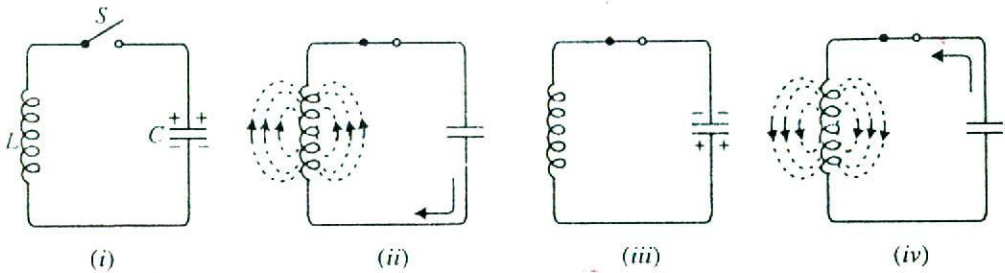

Fig. 16.2
A simple oscillatory circuit consists of a capacitor (C) and inductance coil (L) in parallel as shown in Fig. 16.2. This electrical system can produce electrical oscillations of frequency determined by the values of L and C . To understand how this comes about, suppose the capacitor is charged from a d.c. source with a polarity as shown in Fig. 16.2 (i).
(i) In the position shown in Fig. 16.2 (i), the upper plate of capacitor has deficit of electrons and the lower plate has excess of electrons. Therefore, there is a voltage across the capacitor and the capacitor has electrostatic energy.
(ii) When switch S is closed as shown in Fig. 16.2 (ii), the capacitor will discharge through inductance and the electron flow will be in the direction indicated by the arrow. This current flow sets up magnetic field around the coil. Due to the inductive effect, the current builds up slowly towards a maximum value. The circuit current will be maximum when the capacitor is fully discharged. At this instant, electrostatic energy is zero but because electron motion is greatest (*i.e.* maximum current), the magnetic field energy around the coil is maximum. This is shown in Fig. 16.2 (ii). Obviously, the electrostatic energy across the capacitor is completely converted into magnetic field energy around the coil.
(iii) Once the capacitor is discharged, the magnetic field will begin to collapse and produce a counter e.m.f. According to Lenz's law, the counter e.m.f. will keep the current flowing in the same direction. The result is that the capacitor is now charged with opposite polarity, making upper plate of capacitor negative and lower plate positive as shown in Fig. 16.2 (iii).
(iv) After the collapsing field has recharged the capacitor, the capacitor now begins to discharge; current now flowing in the opposite direction. Fig. 16.2 (iv) shows capacitor fully discharged and maximum current flowing.
As discussed before, a tank circuit produces damped oscillations. However, in practice, we need continuous undamped oscillations for the successful operation of electronics equipment. In order to make the oscillations in the tank circuit undamped, it is necessary to supply correct amount of energy to the tank circuit at the proper time intervals to meet the losses. Thus referring back to Fig. 16.2, any energy which would be applied to the circuit must have a polarity conforming to the existing polarity at the instant of application of energy. If the applied energy is of opposite polarity, it would oppose the energy in the tank circuit, causing stoppage of oscillations. Therefore, in order to make the oscillations in the tank circuit undamped, the following conditions must be fulfilled :